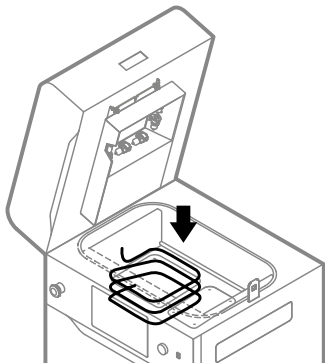

Fig. 13.46 Put on new fiberglass sealing.
19. Put on a new fiberglass rope by wrapping it **three times** (for 6 [mm] rope) or **two times** (for 10 [mm] rope) around the Feed Bed. Remember not to stretch the fiberglass rope (fig. 13.46).